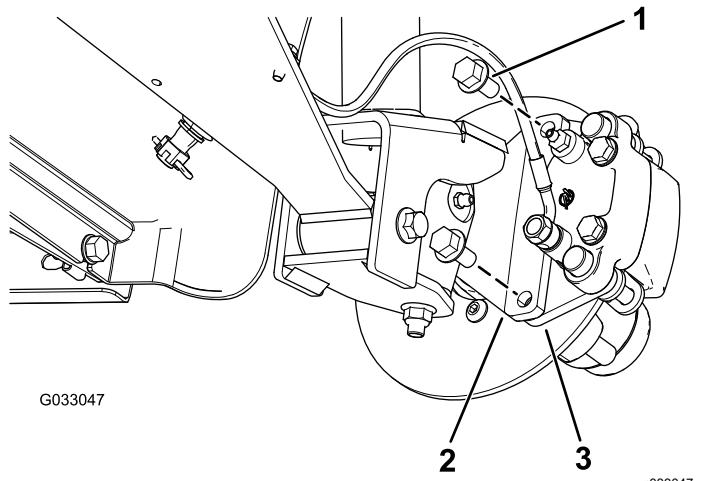
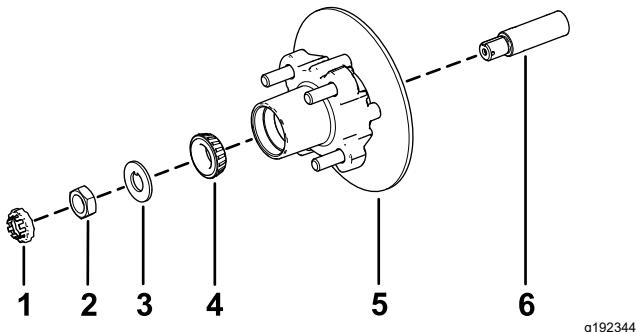

Figure 29
Figure 33
3. Remove the flange-head bolts (3/8 x 3/4 inch) that secure the bracket for the brake assembly to the spindle and separate the brake from the spindle (Figure 29).
1. Apply a light coat of the specified grease to the spindle (Figure 33).
2. Assemble the hub and rotor onto the spindle with the rotor inboard (Figure 33).
3. Assemble the outboard bearing onto the spindle and seat the bearing to the outboard race (Figure 33).
4. Assemble the tab washer onto the spindle (Figure 33).
5. Thread the spindle nut onto the spindle and tighten the nut to 15 N·m (11 ft-lb), while rotating the hub to seat the bearing (Figure 33).
2. Align the brake pads to either side of the rotor (Figure 29) and the holes in the caliper bracket with the holes in the brake mount of the spindle frame (Figure 33).
3. Secure the caliper bracket to the spindle frame (Figure 29) using the 2 flange-head bolts (3/8 x 3/4 inch).